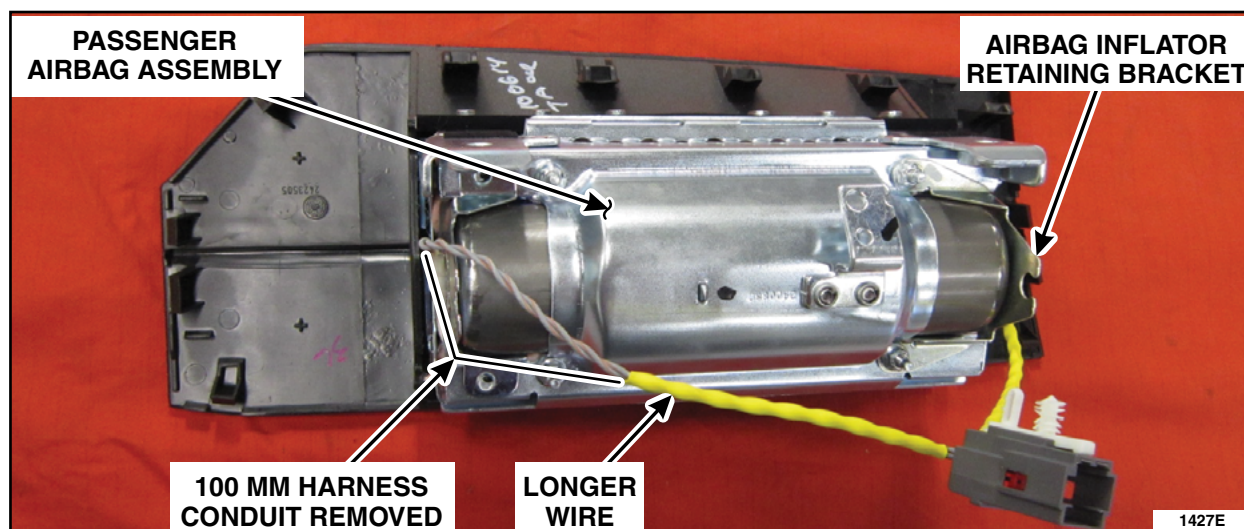

FIGURE 2
NOTE: Carry out this step on the longer wire on the end opposite of the airbag inflator retaining bracket. See Figure 2.
4. Remove approximately 100 mm (3.93 in) of the yellow conduit from the passenger airbag assembly wire harness. See Figure 2.